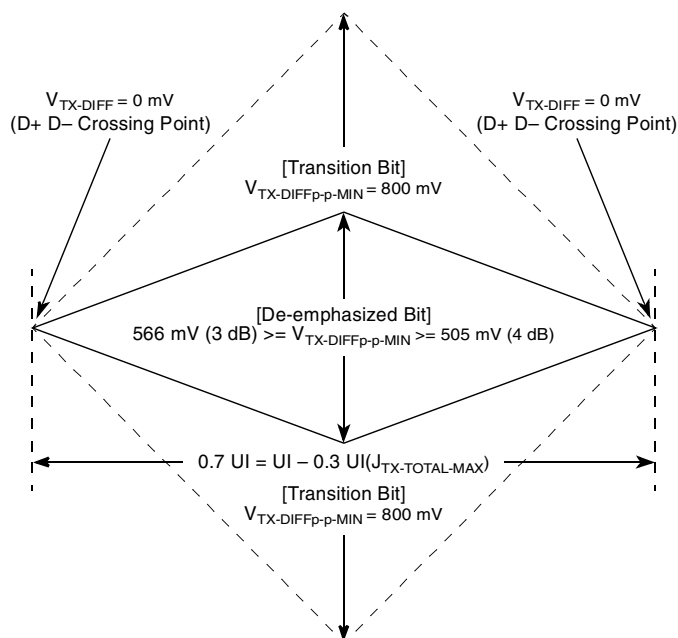
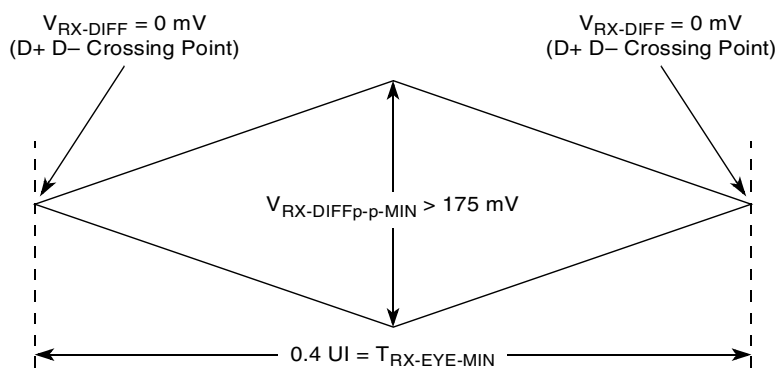
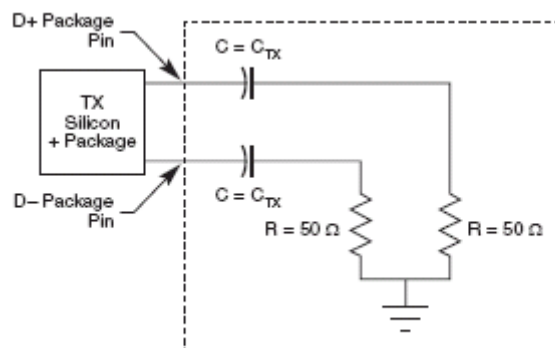

Figure 27. Minimum Transmitter Timing and Voltage Output Compliance Specifications
Figure 28. Minimum Receiver Eye Timing and Voltage Compliance Specification
Figure 29. Compliance Test/Measurement Load
2. Specified at the measurement point into a timing and voltage compliance test load as shown in Figure 29 and measured over any 250 consecutive TX UIs. (Also refer to the transmitter compliance eye diagram shown in Figure 27.)
4. The transmitter input impedance results in a differential return loss greater than or equal to 12 dB and a common mode return loss greater than or equal to 6 dB over a frequency range of 50 MHz to 1.25 GHz. This input impedance requirement applies to all valid input levels. The reference impedance for return loss measurements is 50 Ω to ground for both the D+ and D– line (that is, as measured by a vector network analyzer with 50- Ω probes, see Figure 29). Note that the series capacitors, C_{TX} , is optional for the return loss measurement.
5. Measured between 20% and 80% at transmitter package pins into a test load as shown in Figure 29 for both $V_{\text{TX-D+}}$ and $V_{\text{TX-D-}}$.
The TX eye diagram in Figure 27 is specified using the passive compliance/test measurement load (Figure 29) in place of any real PCI Express interconnect + RX component. There are two eye diagrams that must be met for the transmitter. Both diagrams must be aligned in time using the jitter median to locate the center of the eye diagram. The different eye diagrams differ in voltage depending on whether it is a transition bit or a de-emphasized bit. The exact reduced voltage level of the de-emphasized bit is always relative to the transition bit.
2. Specified at the measurement point and measured over any 250 consecutive UIs. The test load in Figure 29 should be used as the RX device when taking measurements (also refer to the receiver compliance eye diagram shown in Figure 28). If the clocks to the RX and TX are not derived from the same reference clock, the TX UI recovered from 3500 consecutive UI must be used as a reference for the eye diagram.
4. The receiver input impedance results in a differential return loss greater than or equal to 15 dB with the D+ line biased to 300 mV and the D– line biased to –300 mV and a common mode return loss greater than or equal to 6 dB (no bias required) over a frequency range of 50 MHz to 1.25 GHz. This input impedance requirement applies to all valid input levels. The reference impedance for return loss measurements for is 50 Ω to ground for both the D+ and D– line (that is, as measured by a vector network analyzer with 50- Ω probes, see Figure 29). Note that the series capacitors, C_{TX} , is optional for the return loss measurement.
The RX eye diagram in Figure 28 is specified using the passive compliance/test measurement load (Figure 29) in place of any real PCI Express RX component. In general, the minimum receiver eye diagram measured with the compliance/test measurement load (Figure 29) is larger than the minimum receiver eye diagram measured over a range of systems at the input receiver of any real PCI Express component. The degraded eye diagram at the input receiver is due to traces internal to the package as well as silicon parasitic characteristics that cause the real PCI Express component to vary in impedance from the compliance/test measurement load. The input receiver eye diagram is implementation specific and is not specified. RX component designer should provide additional margin to adequately compensate for the degraded minimum receiver eye diagram (shown in Figure 28) expected at the input receiver based on an adequate combination of system simulations and the return loss measured looking into the RX package
The reference impedance for return loss measurements is $50\ \Omega$ to ground for both the D+ and D– line (that is, as measured by a Vector Network Analyzer with $50\ \Omega$ probes—see Figure 29). Note that the series capacitors, $C_{PEACCTX}$, are optional for the return loss measurement.
The AC timing and voltage parameters must be verified at the measurement point, as specified within 0.2 inches of the package pins, into a test/measurement load shown in Figure 29.